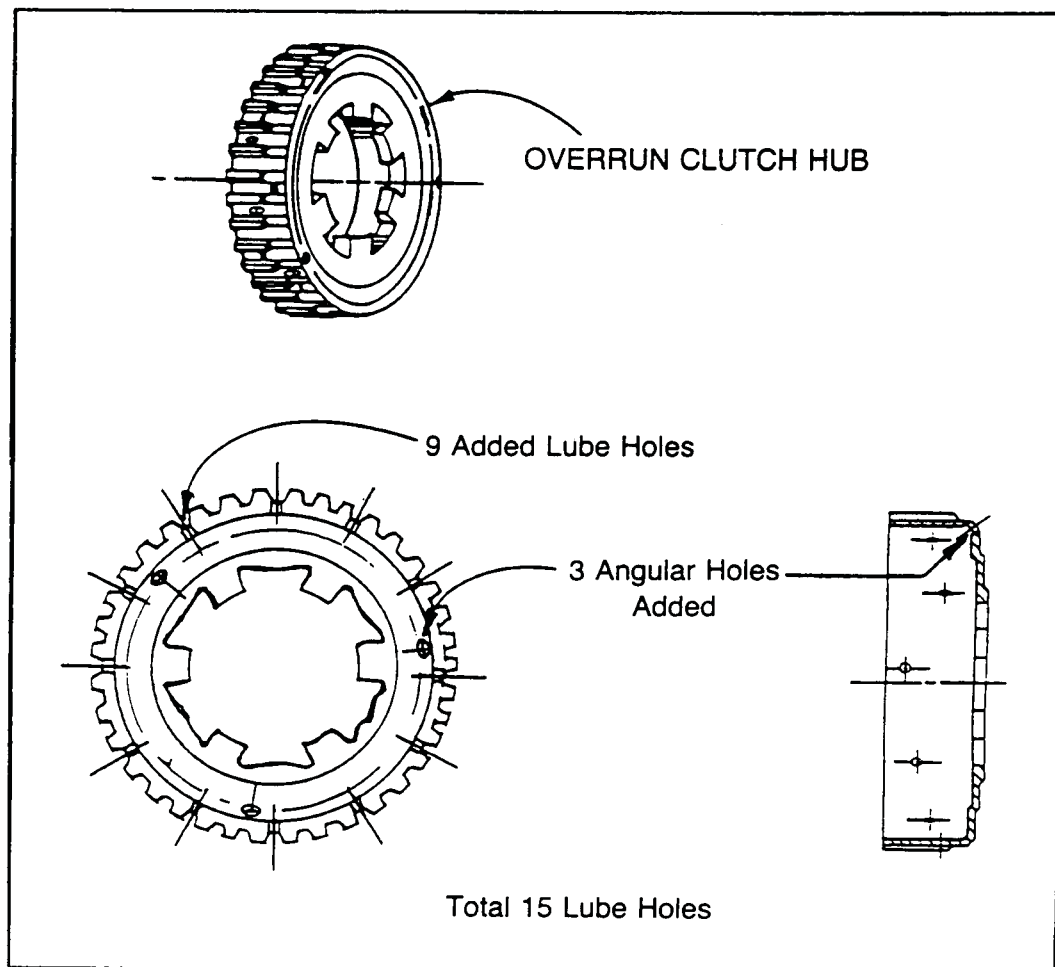

Figure 133
The new design Forward Sprag Assembly includes the new design Overrun Clutch Hub (Figure 133), and is available under OEM Part Number 8657928.
1. Overrun Clutch Hub – Now has 12 lube holes instead of the previous three, plus 3 angular holes, for a total of 15 lube holes (See Figure 133).